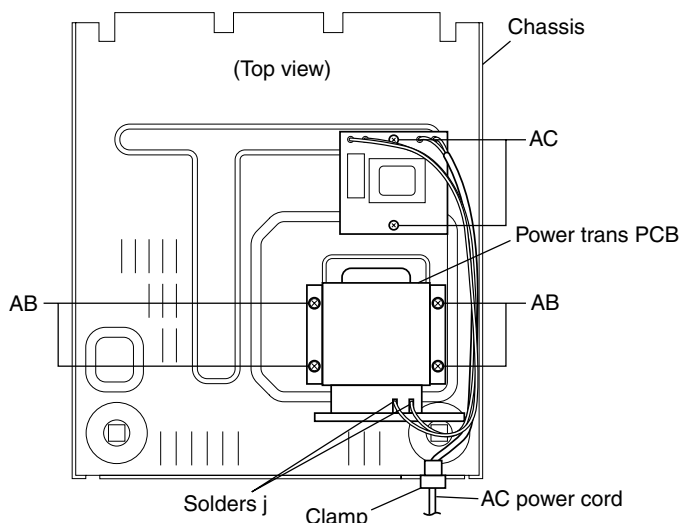

Fig.37
■ Removing the sub power PCB (See Fig.37)